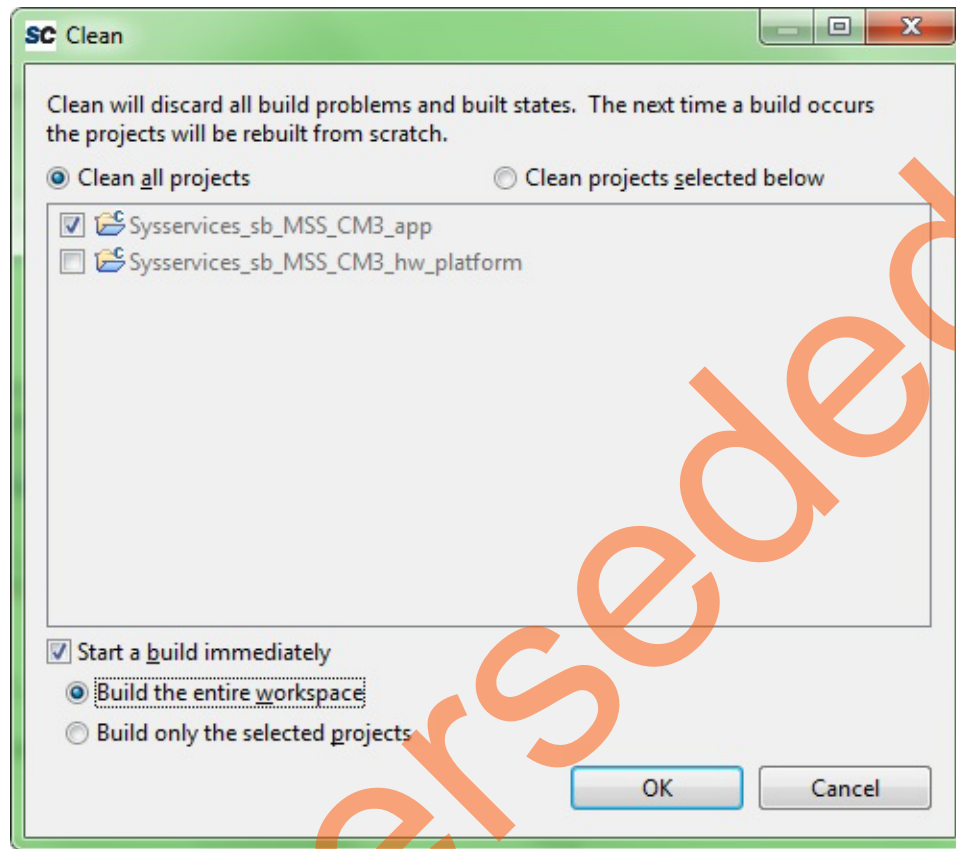

Figure 33 • Settings for Clean Build
11. Perform a clean build by selecting **Project > Clean**. Accept the default settings in the **Clean** dialog box and click **OK**, as shown in Figure 33. The SoftConsole project must not have any errors.